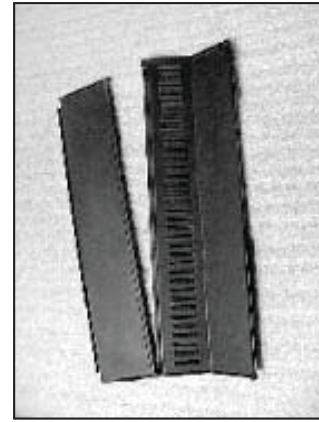

Figure 24.3
2. Set the large hole at bottom of side curtain over screw installed in **Figure 24.3**.